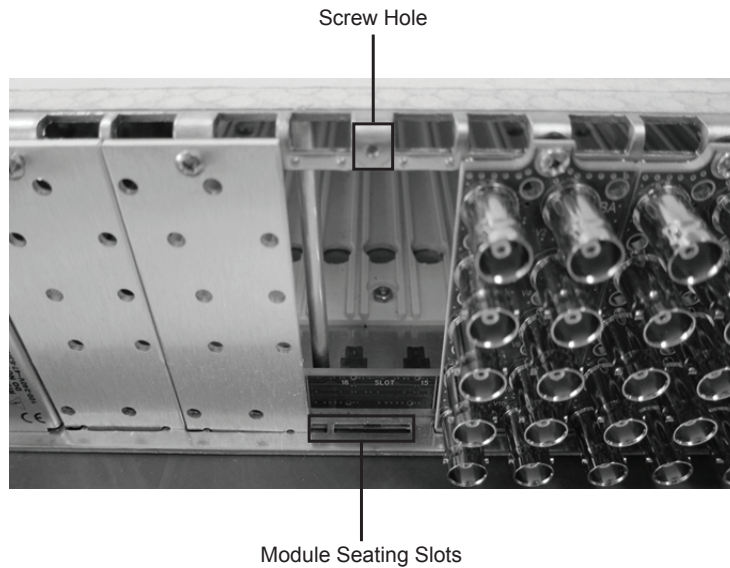

Figure 4.1 Rear Module Installation in an OG3-FR Series Frame (Cards not shown)
4. Seat the bottom of the rear module in the seating slot at the base of the frame's back plane. (**Figure 4.1**)
5. Align the top hole of the rear module with the screw hole on the top edge of the frame back plane. (**Figure 4.1**)